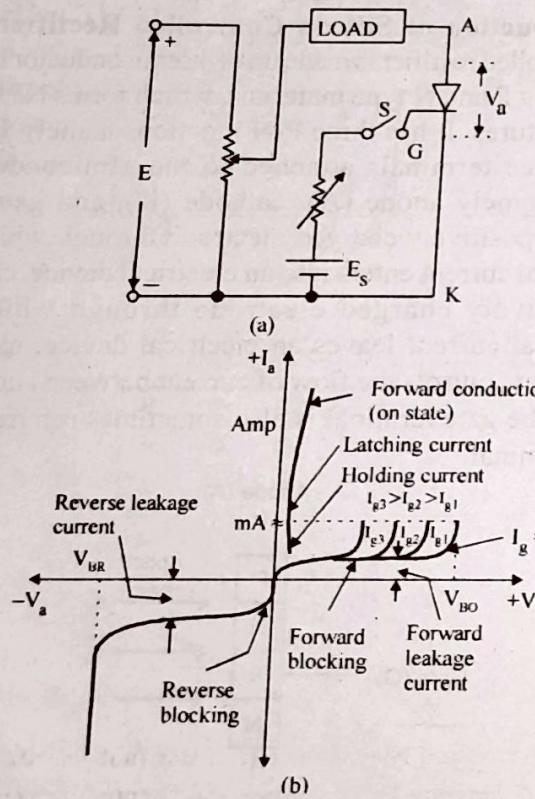

Fig. 3 : (a) Elementary circuit for obtaining V-I characteristics
- (1) Forward Blocking Mode (Off State)
- (2) Forward Conducting Mode (On State)
- (3) Reverse Blocking Mode (Off State)
To obtain Static V-I characteristics of thyristor, anode and cathode are connected to main source (E) as shown in Fig.3(a).
Gate and cathode are fed from a source E_g , which provides gate current. Static V-I characteristics is basically a plot between anode voltage (V_a) and anode current (I_a), which is shown in Fig.3(b). It has basically three modes namely reverse blocking mode, forward blocking (off-state) mode and forward conduction (on-state) mode.